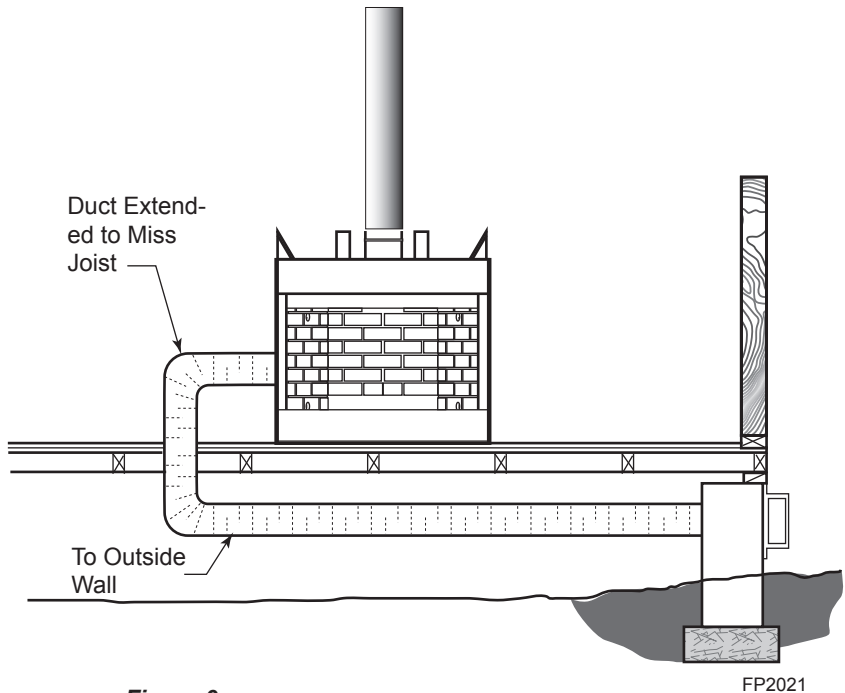

Figure 9 -
1. Avoid extremely long runs and numerous turns in duct leading from fireplace to combustion air assembly. These conditions increase the resistance to free flow of air through duct. *Figures 9 and 10*
4. Combustion air may be drawn from crawl space under house when adequate supply of air is provided by open ventilation. *Figure 9*